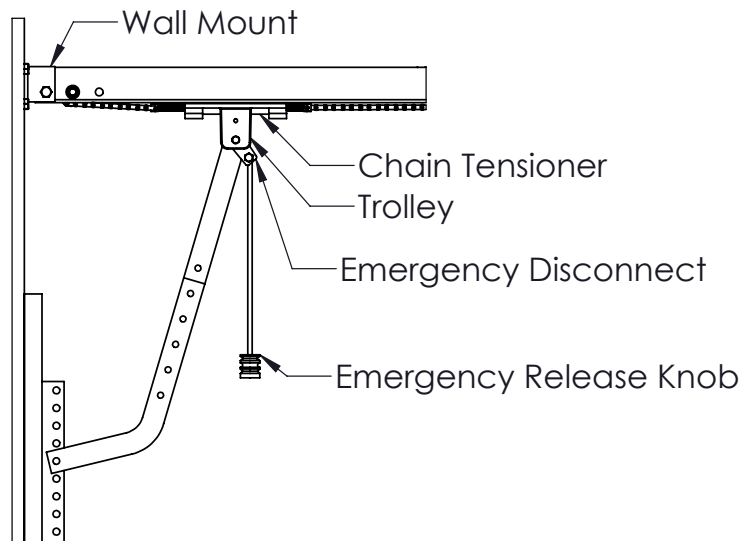

FIGURE 7
1. To Disconnect Door From Operator : The door should be fully closed if possible. Pull down and away from the door on the emergency release knob. (Figure 7) Make sure the disconnect snaps back in the released position to prevent the trolley from reconnection automatically. The trolley will release from the chain tensioner. The door can now be raised and lowered manually.